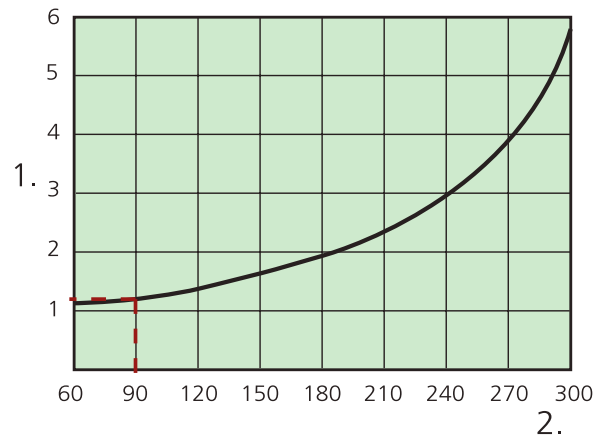

Figure 2. Correction factor for shielding.
- The dB(A) values are for rooms with normal acoustic absorption of 4 dB.
- The dB(C) value is normally 6-9 dB higher than the dB(A) value.
- Correction factor for shielded spread pattern, see graphs and examples below the dimensioning graph. Also see figure 2.